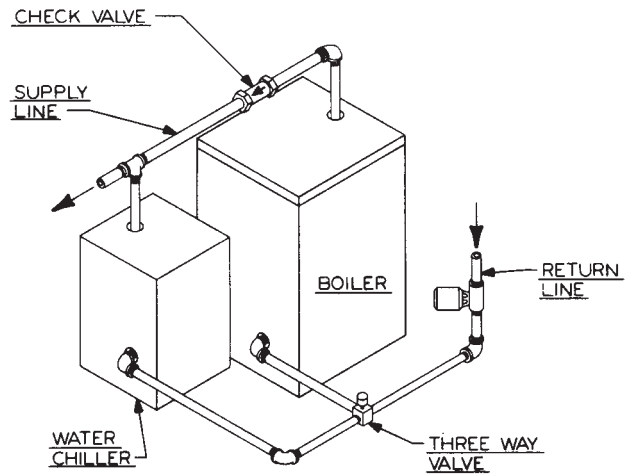

Figure 3.2: Parallel Hook-Up with Water Chiller
6. If this boiler and distribution system is used in conjunction with a refrigeration system, pipe the chilled medium in parallel with the boiler and install the proper valve to prevent the chilled medium from entering the boiler. A drawing illustrating this hook-up is provided in Figure 3.2.